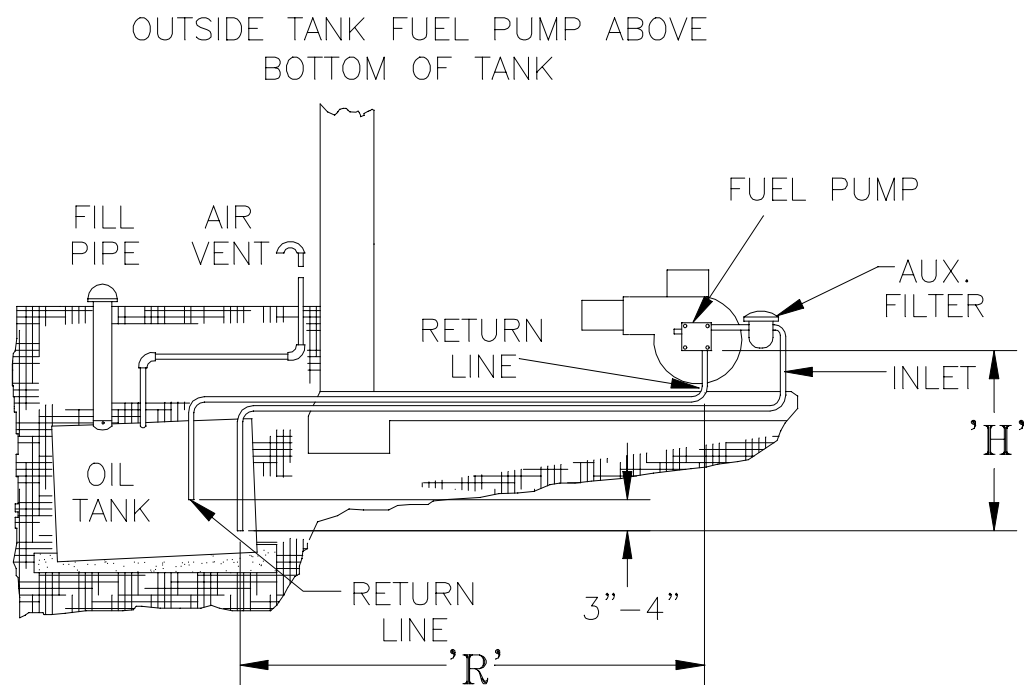

Figure 13: Two-Pipe Installation
1. For two-piped systems, where more lift is required, the two-stage fuel unit is recommended. Table 2 (single-stage) and Table 3 (two-stage) show allowable lift and lengths of 3/8 inch and 1/2 inch OD tubing for both suction and return lines. Refer to Figure 13.